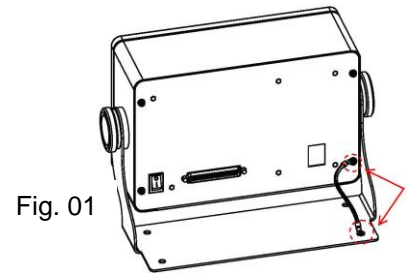

Fig. 01
- Be sure to connect controller grounding wire as shown in the diagram (Fig. 01).**